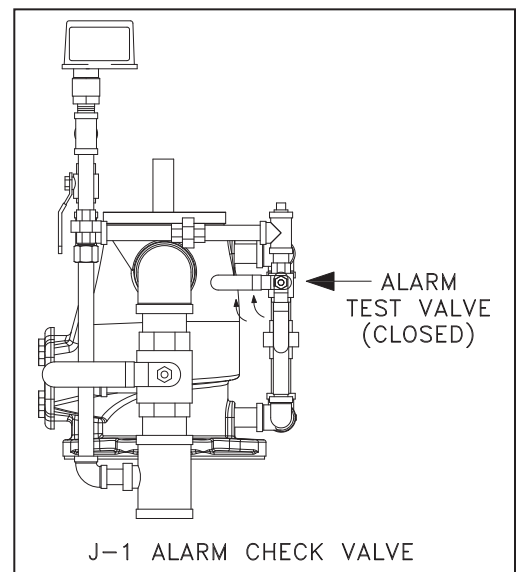

Figure 37
3. When testing is complete, close the test valve used (Figure 37).